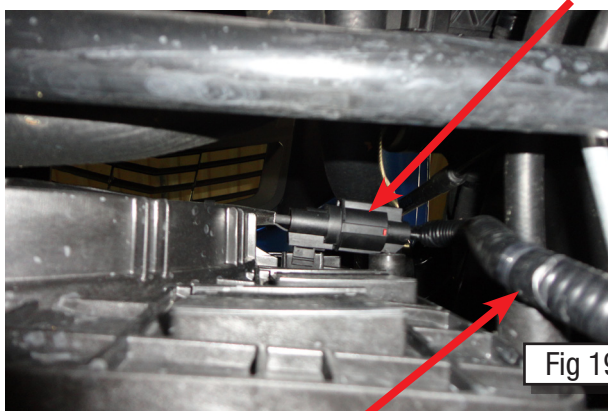

Fig 19.
21. Unplug the wiring harness for the fan shroud. Using a trim tool remove the plastic clip holding the harness to the fan shroud and also the plastic clip holding the lower radiator hose to the fan shroud. Using a trim tool remove the two plastic clips holding the hoses to the driver side of the fan shroud. Remove the fan shroud from the car (Fig. 19).